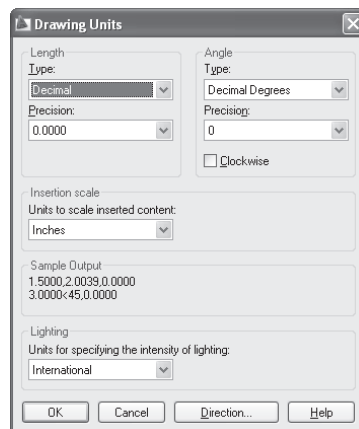

Figure 2.9
1. From the Menu Browser, choose Format → Units to open the Drawing Units dialog box (see Figure 2.9).